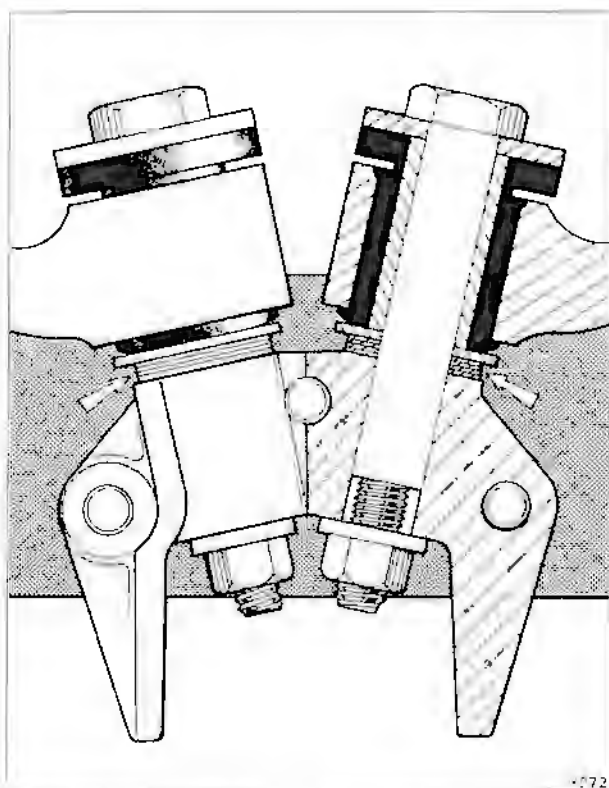

Fig. H5-1 Front triangle lever mount (shims arrowed)
8. Slacken the bolts securing the lower triangle levers to the sub-frame pivot bushes (see figs. H5-1 and H5-2).
15. Remove the bolts from the triangle lever pivot bushes and remove the triangle levers. Collect the shims if fitted (see fig. H5-1).
The bushes should be pressed in so that the large diameter buffer section of the bush faces rearwards when the lever is fitted to the car (see figs. H5-1 and H5-2).
1. Assemble the front triangle lever onto the bearing housing as shown in figure H5-1. Do not tighten the nut or fit the shim washers at this stage.
7. Measure the distance between the bearing housing and the inner washer (see fig. H5-1). Select the number of shims required to fill this distance, rounding up or down to the nearest shim.